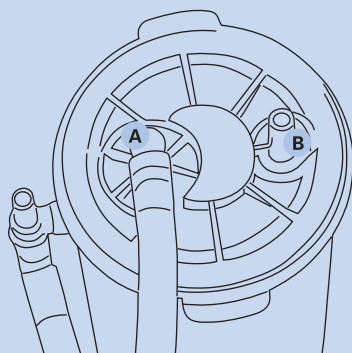

Fig. 2
5. Connect the supplied sterile suction tubing (supplied as an accessory) to the patient connection of the "Liner" (see Fig. 2 B).